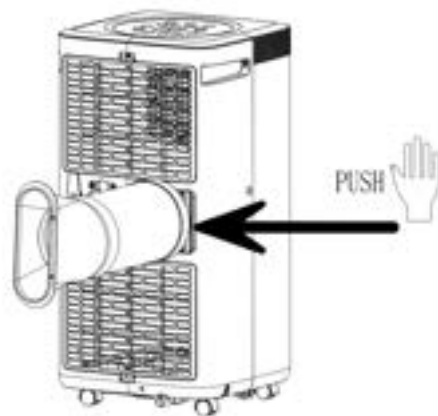

Figure 1
1.1 Install the heat pipe assembly (as shown in Fig.1)
2) Insert the heat pipe assembly (the end of the exhaust joint) into the back panel vent slot (push to the left) and complete the assembly (as shown in figure 1).